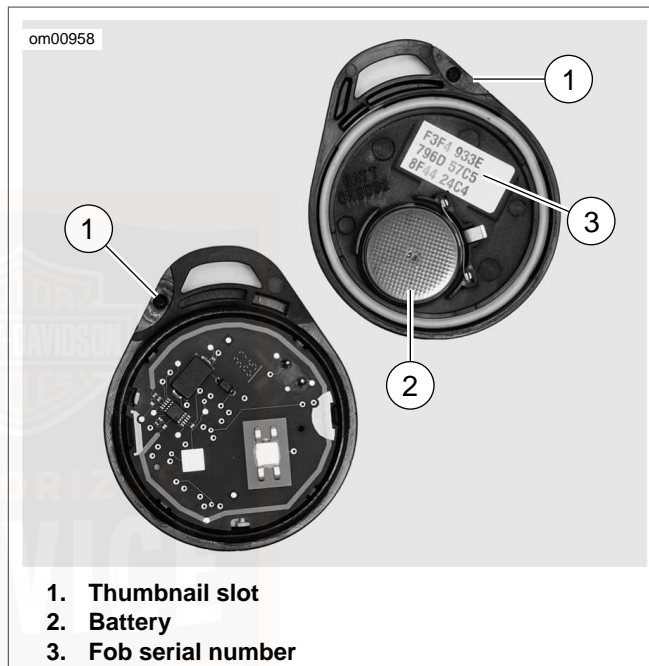

Figure 21. Hands-Free Fob Battery
1. See Figure 21. Slowly turn a thin blade in the thumbnail slot (1) on the side of the fob to separate the two halves.
2. Remove the battery (2) and discard.